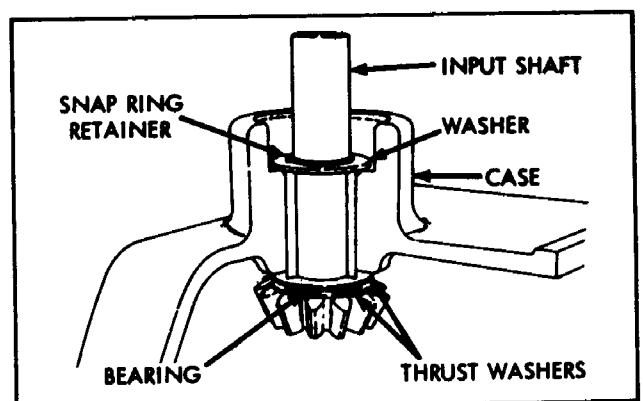

Figure 2-9
10. Remove input shaft oil seal to allow access to snap ring. Remove snap ring and input shaft will slide out. (Fig. 2-9). A removed seal must be replaced by a new seal.